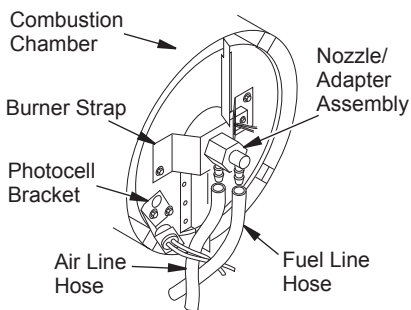
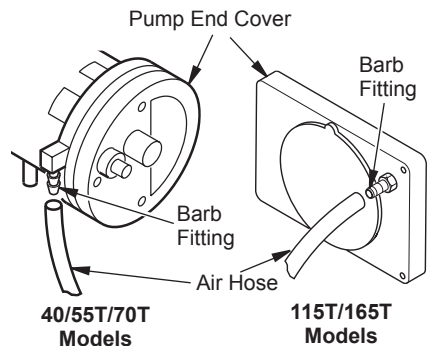

Figure 19 - Removing Air and Fuel Line Hoses, (40/55T/70T Models Only)
Figure 24 - Air Hose to Barb Fitting
- Replace photocell in photocell bracket. Route wires as shown in Figure 19, 20, or 21.
- Remove fuel and air line hoses from nozzle assembly (see Figure 19, 20, or 21).
- Inspect fuel and air line hoses for cracks and/or holes. If fuel line hose is damaged, disconnect from nozzle adapter (see Figure 19, 20, or 21, page 12) and from fuel filter (see *Fuel Filter*, page 11). If air line hose is damaged, disconnect from nozzle adapter (see Figure 19, 20, or 21, page 12) and from barb fitting on pump end cover (see Figure 24).
- Install new air and/or fuel line. Attach one end of air line hose to barb fitting on pump end cover (see Figure 24) and the other end to nozzle adapter (see Figure 19, 20, or 21, page 12). Attach one end of fuel line hose to fuel filter (see *Fuel Filter*, page 11) and the other end to nozzle adapter (see Figure 19, 20, or 21, page 12).
Note: Route hoses as shown in Figure 19, 20, or 21, page 12, according to model. Hoses are not to touch photocell bracket.